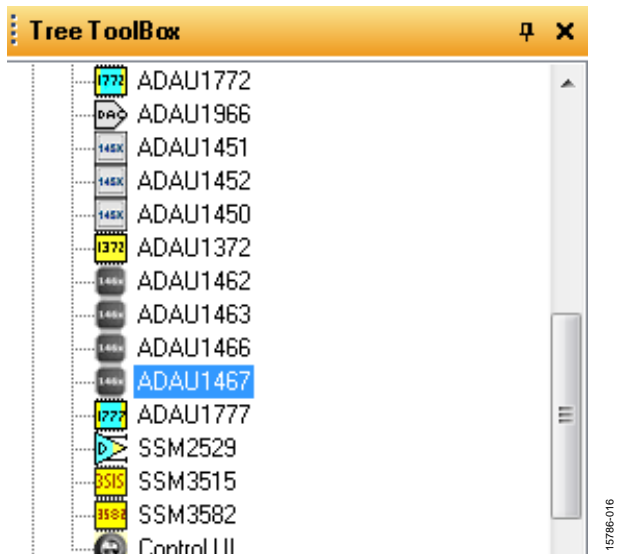

Figure 16. Adding an ADAU1467
This user guide details the design, setup, and operation of the EVAL-ADAU1467Z evaluation board. This board is suitable for the evaluation of, and software development for, the ADAU1467 and ADAU1463 SigmaDSP® processors. Note that the ADAU1467 and the ADAU1463 are functionally identical; however, the ADAU1467 has more program and data memory than the ADAU1463. When using this evaluation board to evaluate the ADAU1463, select the ADAU1463 block (see the Setting Up Communications in SigmaStudio section) rather than the ADAU1467, as shown in Figure 16. Performing this action informs the compiler to limit the amount of memory allocated to match the ADAU1463. All other procedures and instructions in this user guide are identical for the ADAU1463 and ADAU1467.
- b. Add an **ADAU1467** component from the **Processors (ICs/DSPs)** subsection of the toolbox (see Figure 16).